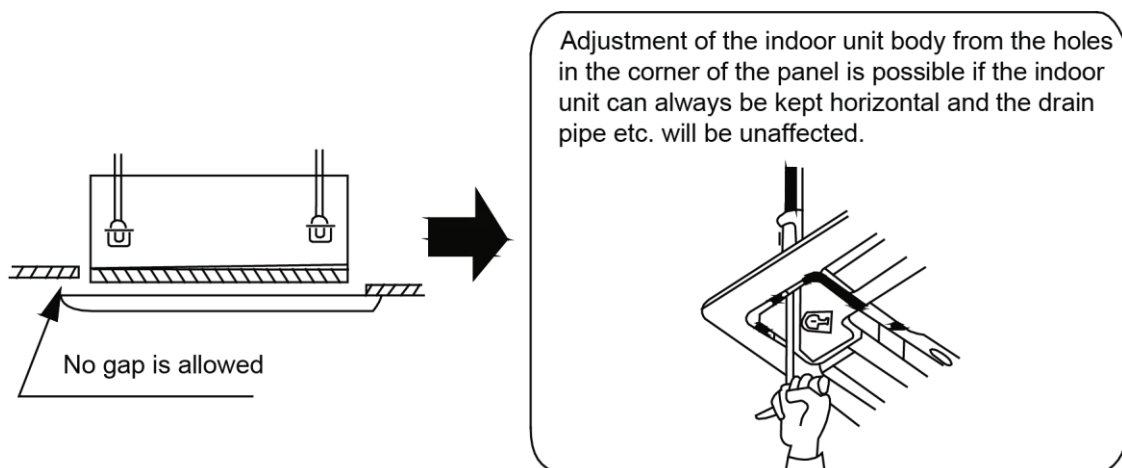

Figure 3-1-33
(8) If gap still exists between ceiling and decoration panel after tightening the screws, readjust the height of the indoor unit. (Figure 3-1-33)